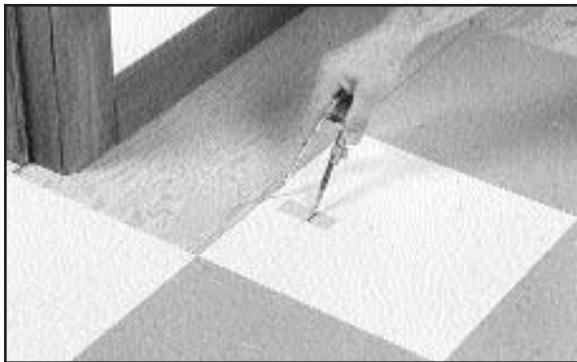

Fig. 9.
3. Set dividers to the distance between the mark and the edge of the tile (Figure 9).